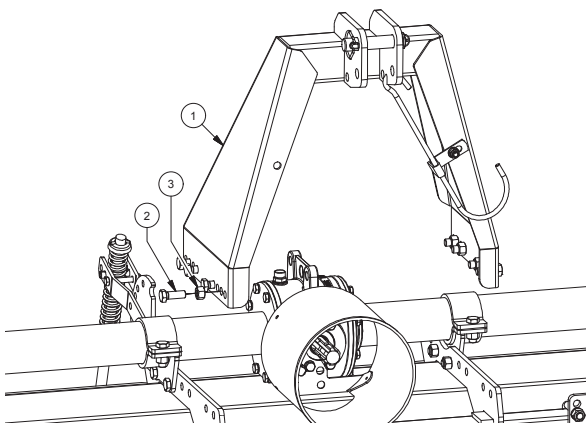

FIG. 10
- Fit the third point (1, Fig. 10), insert it inside between the frame supports; tighten bolts (2) and nuts (3) at the recommended torque (see table “Bolt driving torque (Nm)” on page 45)